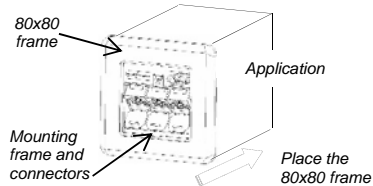

Fig. 7
5.4 On the mounting frame, place the 80x80 frame from AMP NETCONNECT (PN 336608-X) or from other manufacturer (fig. 7).